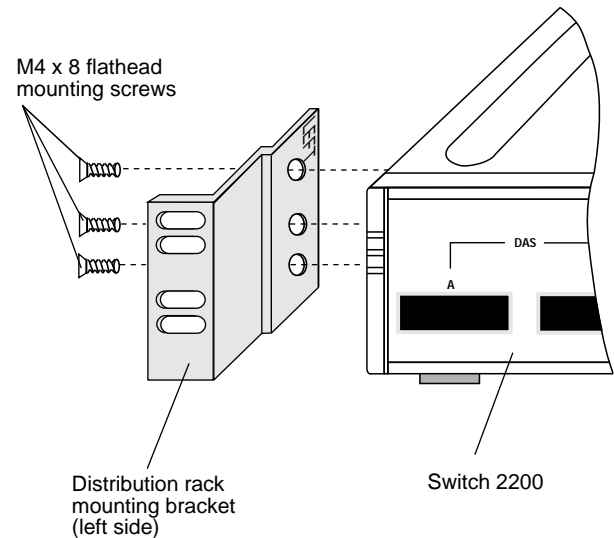

Figure 2-2 Installing System Mounting Brackets
- 1 Attach the mounting brackets to the left and right sides of the system using the M4 x 8 flathead mounting bracket screws. The brackets are marked LEFT and RIGHT for easy identification. See Figure 2-2.